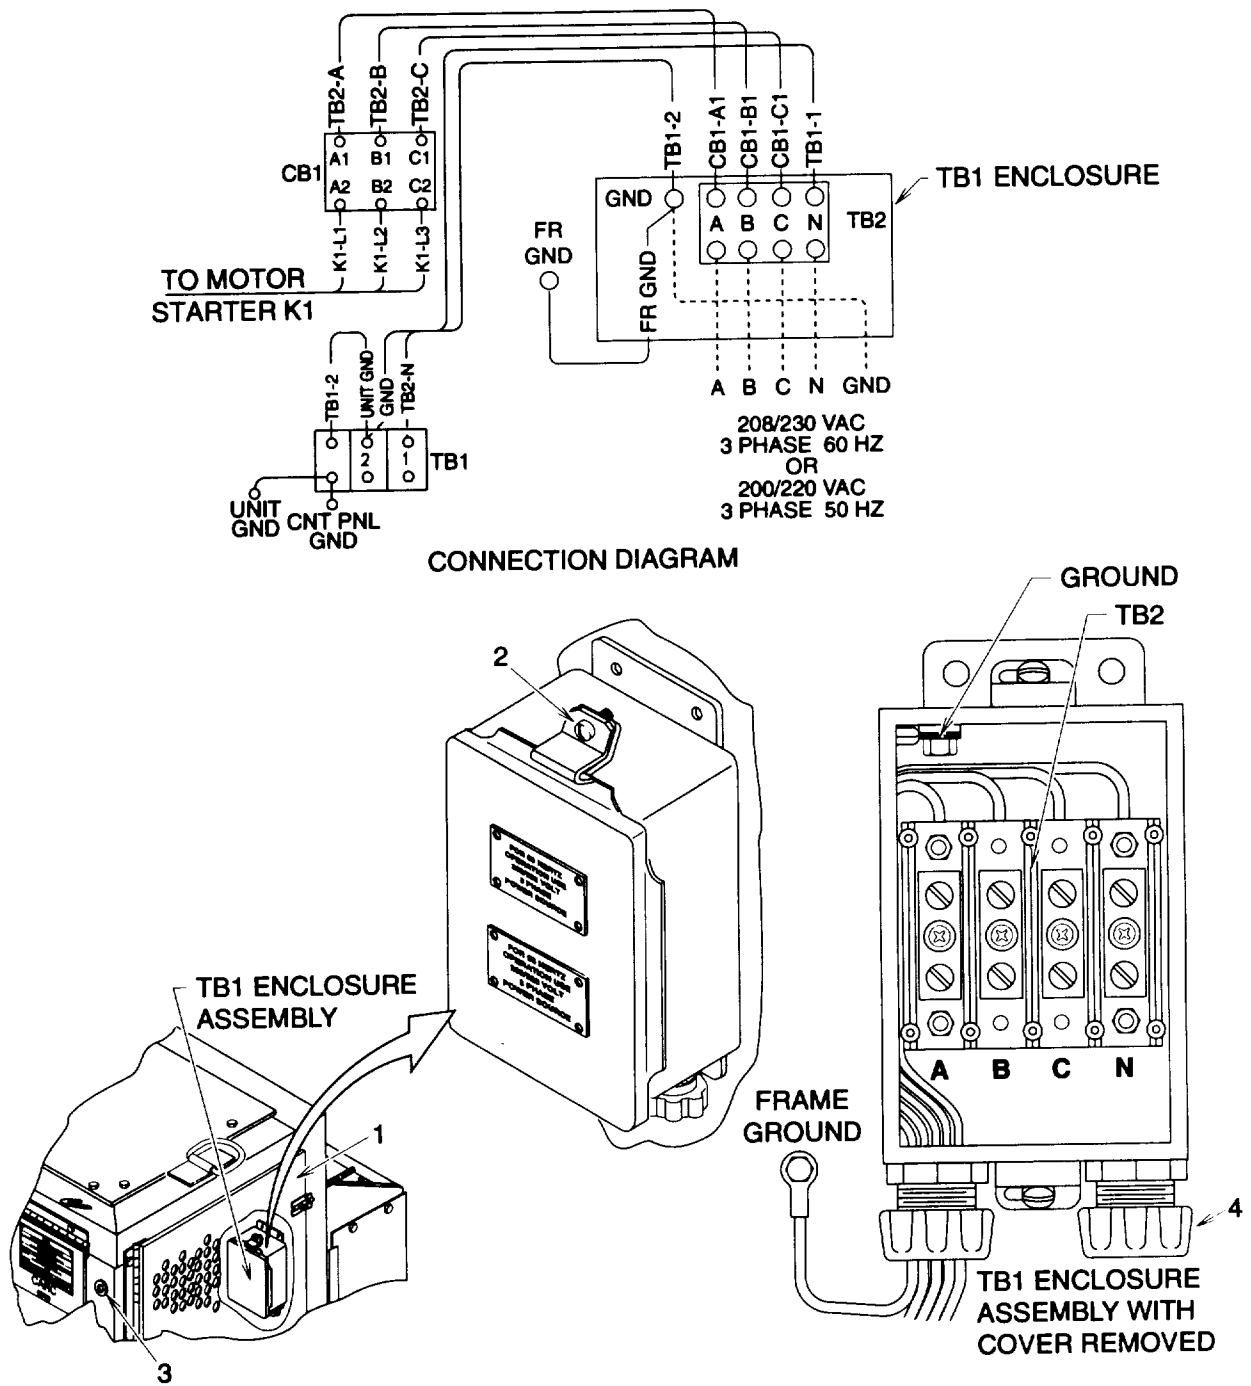

Figure 4-3. Input Power Connection
- (1) Open right side condenser door (1, fig. 4-3).
- (2) Loosen two screws (2) and open enclosure assembly door.